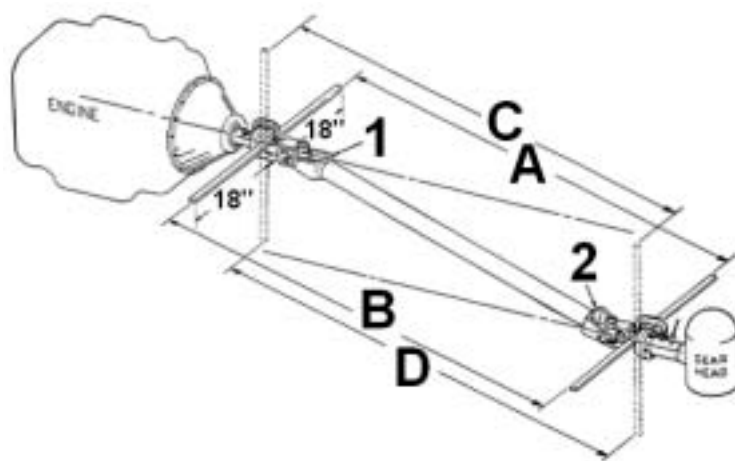

Figure 1. Alignment Of Pump Drive
1. First, and very important, the forks (items 1 and 2, Figure 1) of the drive shaft between the PTO and the gearbox must lie in the same plane. This will prevent severe vibrations from occurring in the drive shaft.
The centerlines of the PTO shaft and input shaft of the pump drive must be parallel. One method of accomplishing this is shown in Figure 1. To align engine and pump drive by this method, two accurate straight edges that are at least 36 inches (860 mm) long, and a tape measure are required.